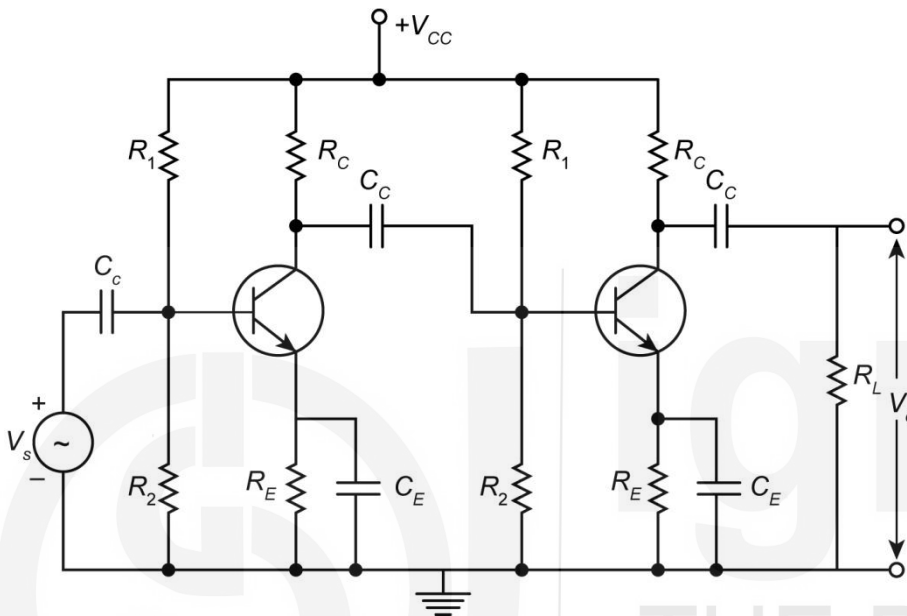

Fig. 10.9: Two-stage RC -coupled amplifier using transistors.
Fig. 10.9 shows how to couple two stages of amplifier using resistance-capacitance (RC) coupling scheme. This is the most widely used method. In this scheme, the signal at the collector of the first stage is coupled to the base of the second stage through the capacitor C_c . The coupling capacitor C_c blocks the dc voltage of the first stage from reaching the base of the second stage. In this way, the dc biasing of the next stage is not interfered with. For this reason, the capacitor C_c is also called a *blocking capacitor*.
We can replace R_C by a component whose dc resistance is zero, but ac impedance is very high. We can do this by replacing R_C by a choke (an inductor). Two things are achieved by doing this. First, no dc voltage drop occurs across the choke (since the dc resistance is almost zero). So we can use a lower voltage supply V_{CC} for the same amplifier. Second, the dc power loss in the choke is almost nil. Thus, this circuit is much efficient as compared to the one in Fig. 10.9.